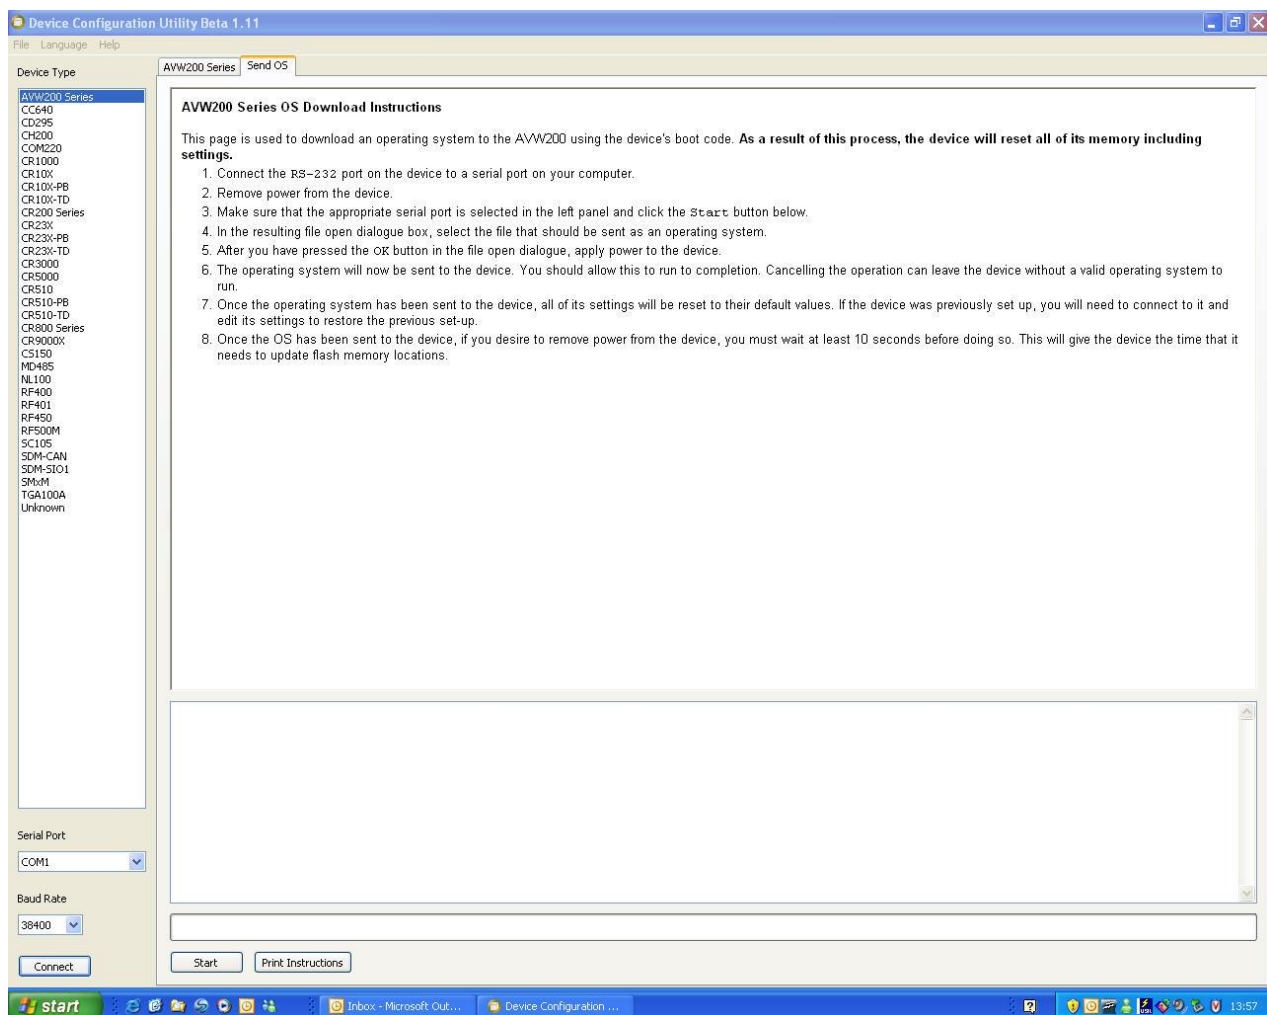

Figure 5.4-1. Sending an Operating System using DevConfig
5. Click the Send OS tab and follow the directions on the screen (Fig. 5.4-1).